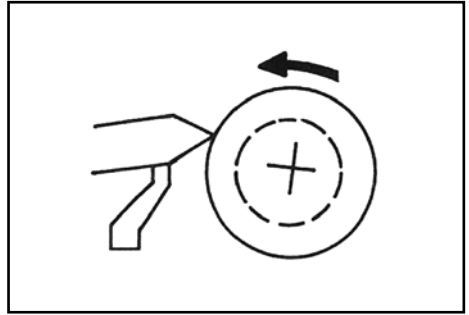

FIG. 34
10.10 USING A PARTING CHISEL – FIGS. 34 – 35
A parting chisel has one primary purpose – to cut straight into the workpiece as deep as desired, or all the way through the workpiece to make a cut off. This is a very narrow chisel, approximately 3mm wide and is shaped to cut its own clearance, so the cutting edge will not burn. But when used as a scraper, it should be backed off at regular intervals to prevent overheating. See Fig.34, 35.